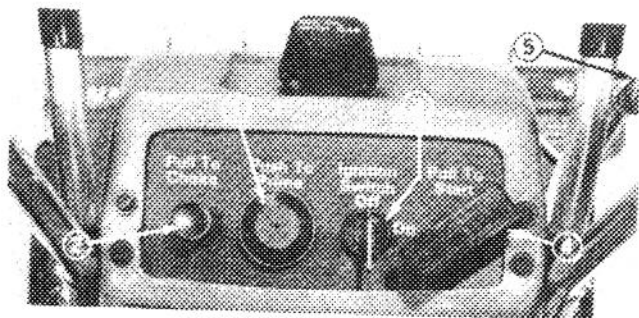

Figure 4
1. Primer (Fig. 4) — Push primer to pump a small amount of fuel into the carburetor which allows the engine to be started easier in cold temperatures. **DO NOT USE PRIMER WHEN ENGINE IS HOT.**
2. Choke (Fig. 4) — Pull choke out to start engine. Because air intake into carburetor is restricted, engine receives a rich fuel mixture for easy starting.
3. Ignition Switch (Fig. 4) — Switch has ON and OFF position. Rotate key to ON to open the switch; then engine can be started by pulling recoil starter.
4. Recoil Starter (Fig. 4) — Pull recoil starter to start the engine.
5. Vane Direction Control (Fig. 4) — Rotate vane control to direct discharge of snow to either side or straight forward.